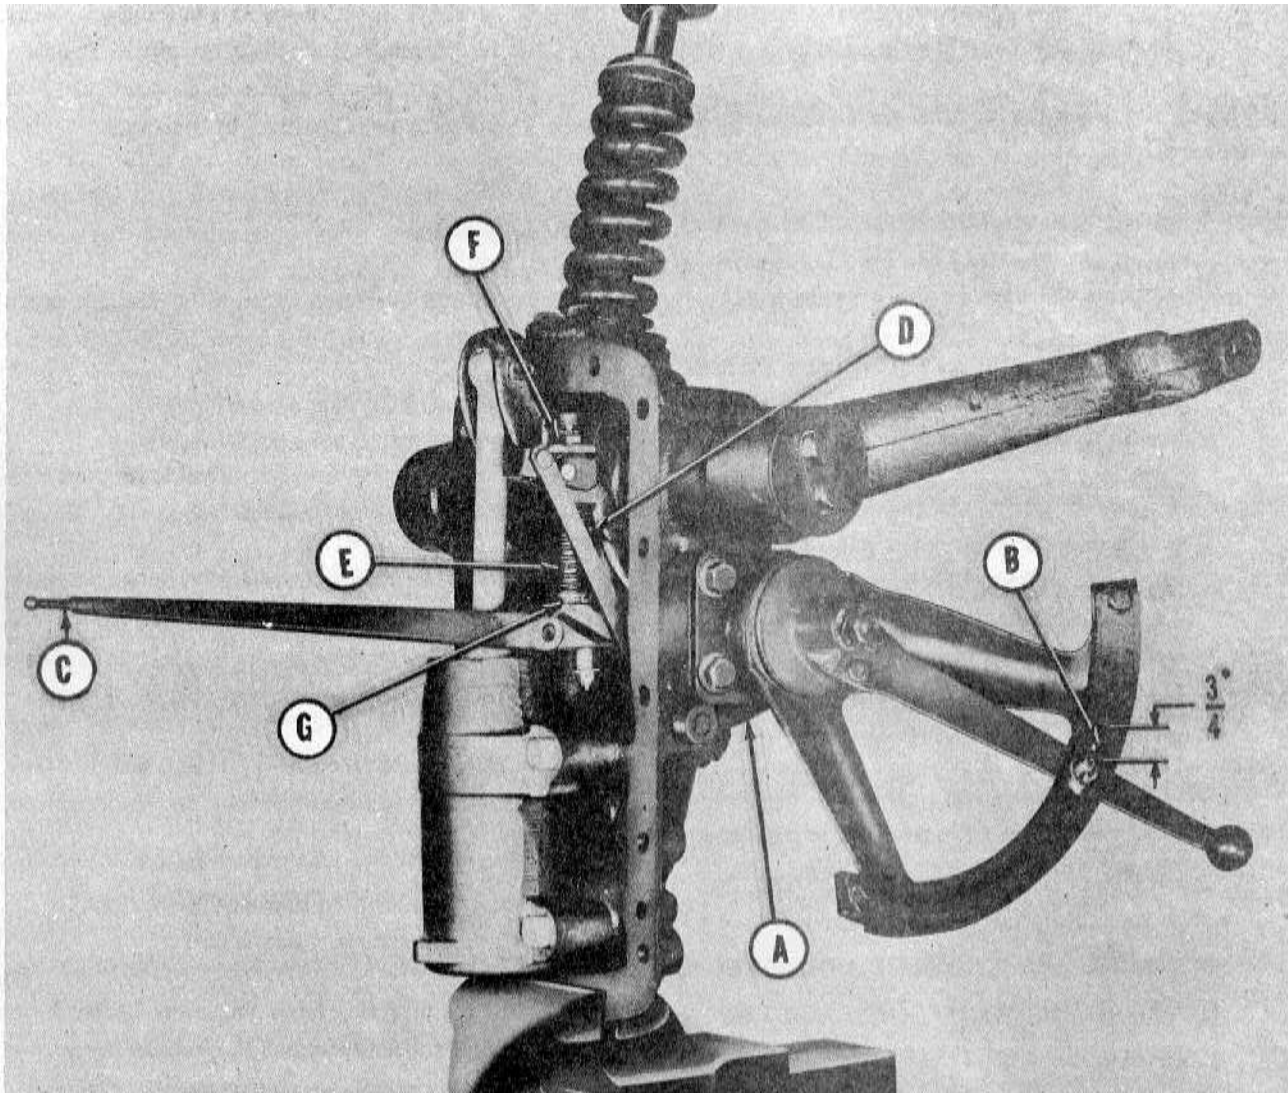

Fig. 7
Step 1—Engage the implement position control lever (A—Figure 7) by moving it to the "up" position.
Step 2—Move the hydraulic touch control lever until there is a $\frac{3}{4}$ inch opening between the top edge of the lever and the top end of the slot in the quadrant as shown at (B—Figure 7).
NOTE: Make sure the control arm (C—Figure 7) moves freely.
Step 4—Raise the implement position control spring linkage until the pin (D—Figure 7) contacts the cam on the lift ram arm.
Step 5—Raise the control arm (C—Figure 7) until the swivel comes into contact with the collar on the constant draft control spring.
Step 6—Adjust the length of the implement position control spring (E—Figure 7) by loosening the locknut (F—Figure 7) and turning the adjusting bolt (G—Figure 7), so that it contacts the control arm when the pin is touching the cam and the swivel is in contact with the constant draft spring.